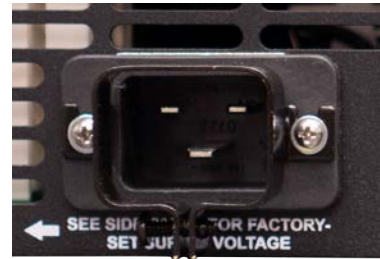

Figure 3.5 – Closeup of AC Mains Outlet
The power cord connects to a standard 20A 3-pin IEC-type male connector on the back panel (see **Figure 3.5**). Make sure the Breaker/Switch on the front panel is switched to the OFF (O) position. Make sure the power cord is inserted and seated fully into the IEC connector by moving it slightly back and forth and up and down while pushing in. The power cord is relatively stiff and should be routed so that there is no excessive force pulling to the sides or up or down that would stress the pins or internal connections.